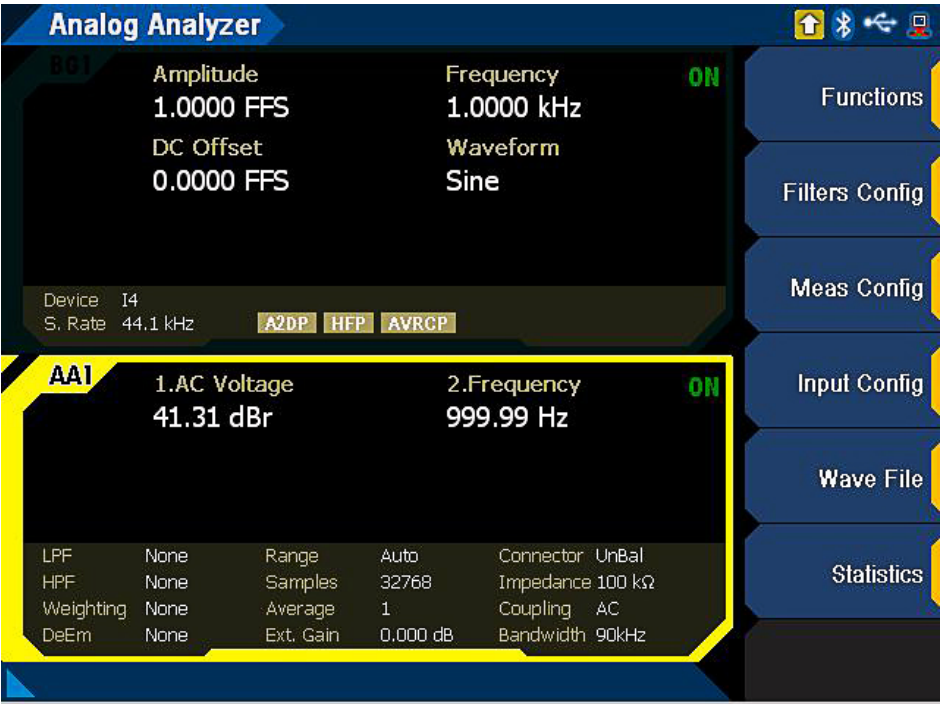

Figure 17. Example out-of-band measurement
- 5. The result of out-of-band measurement is shown in Figure 17.
In summary, the use of a low-pass filter is recommended to reduce the out-of-band noise and prevent any interference with the hearable measurement. The results of an out-of-band measurement made using the U8903B are displayed in Figure 17.